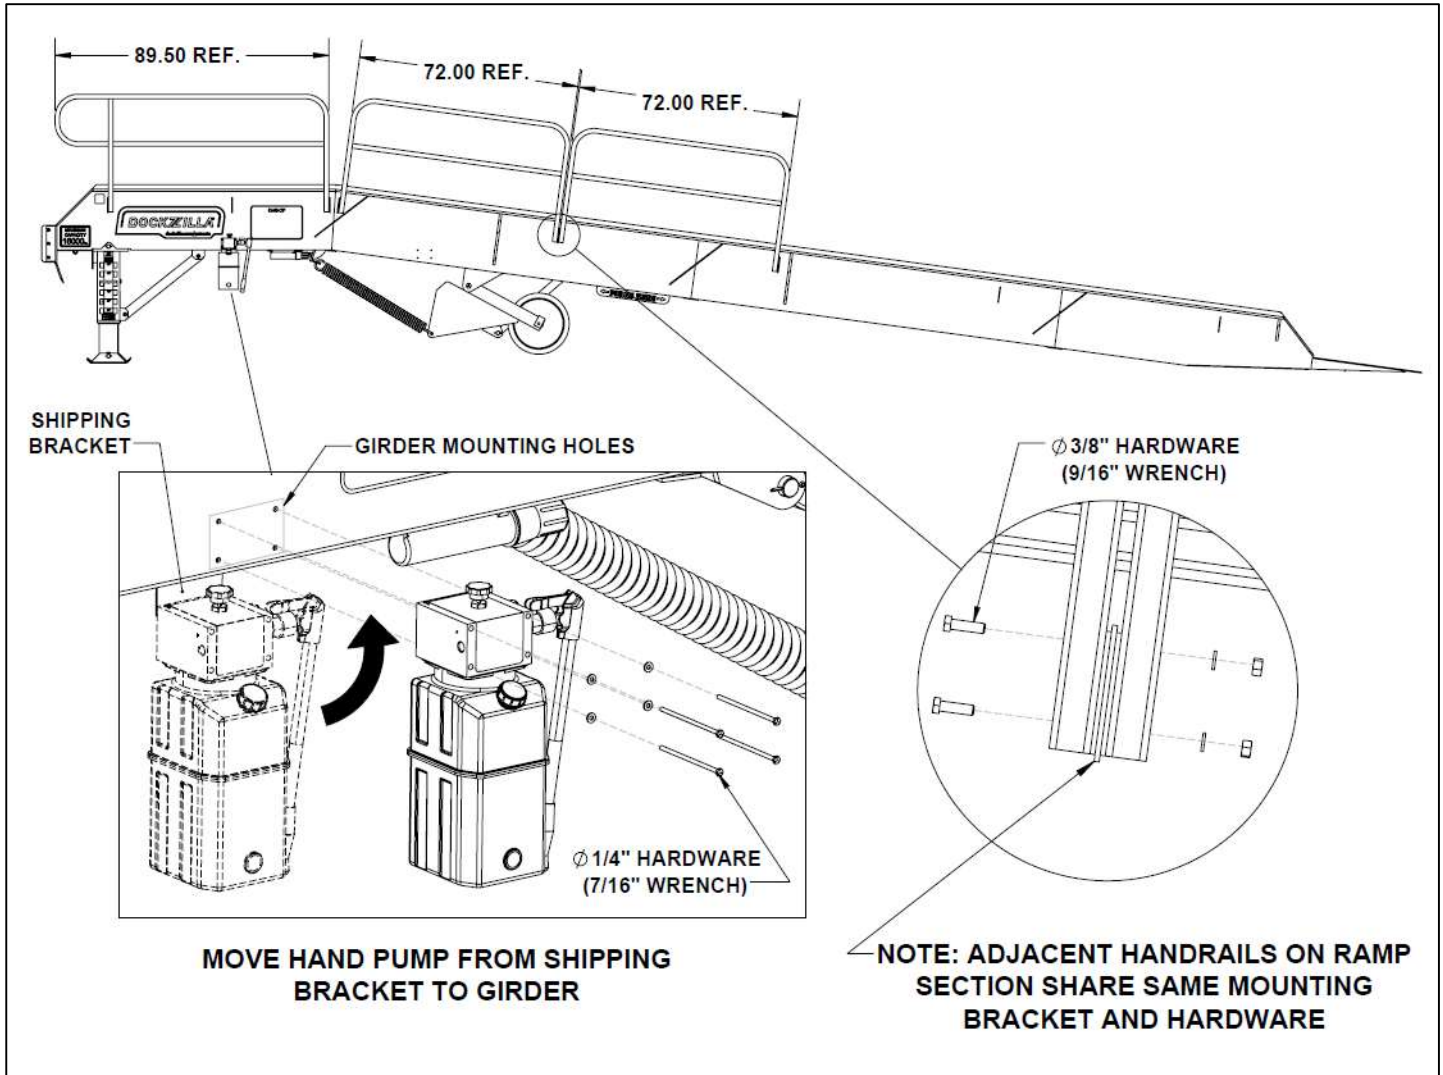

Figure 3a. Hand Pump and Handrail Installation
1. Install handrails and the dock leveler handle holder using the provided 3/8" hardware (Figures 3a and 3b).